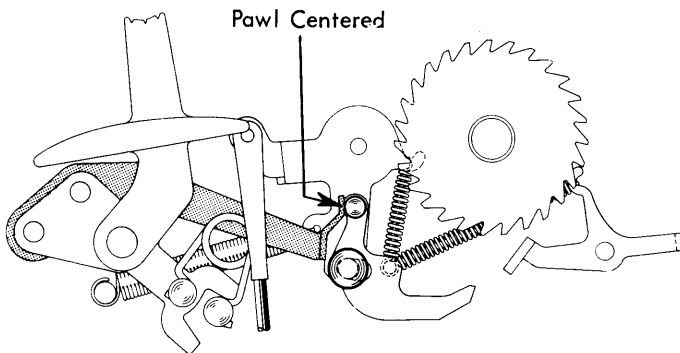

FIGURE 155. *Vertical Adjustment Of Index Selection Cam*
- b. Adjust the selection cam up or down so that the index pawl is centered on the cam surface with the selection lever in the single line space position (Fig. 155).